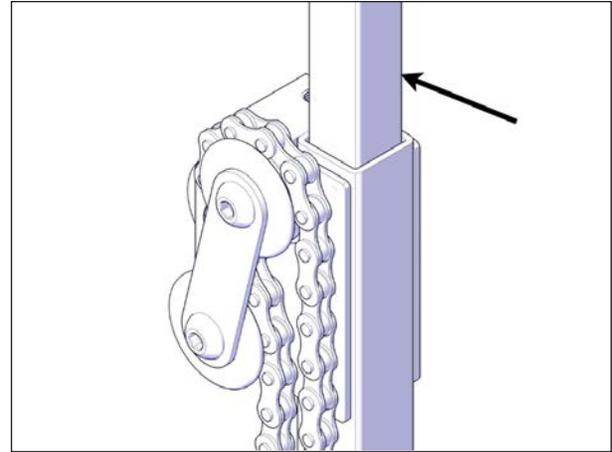

FIGURE 74: SLIDING PARTS GREASING
7. Spray grease on all the sliding parts and mechanical components of all four jacks, see Figure 74.